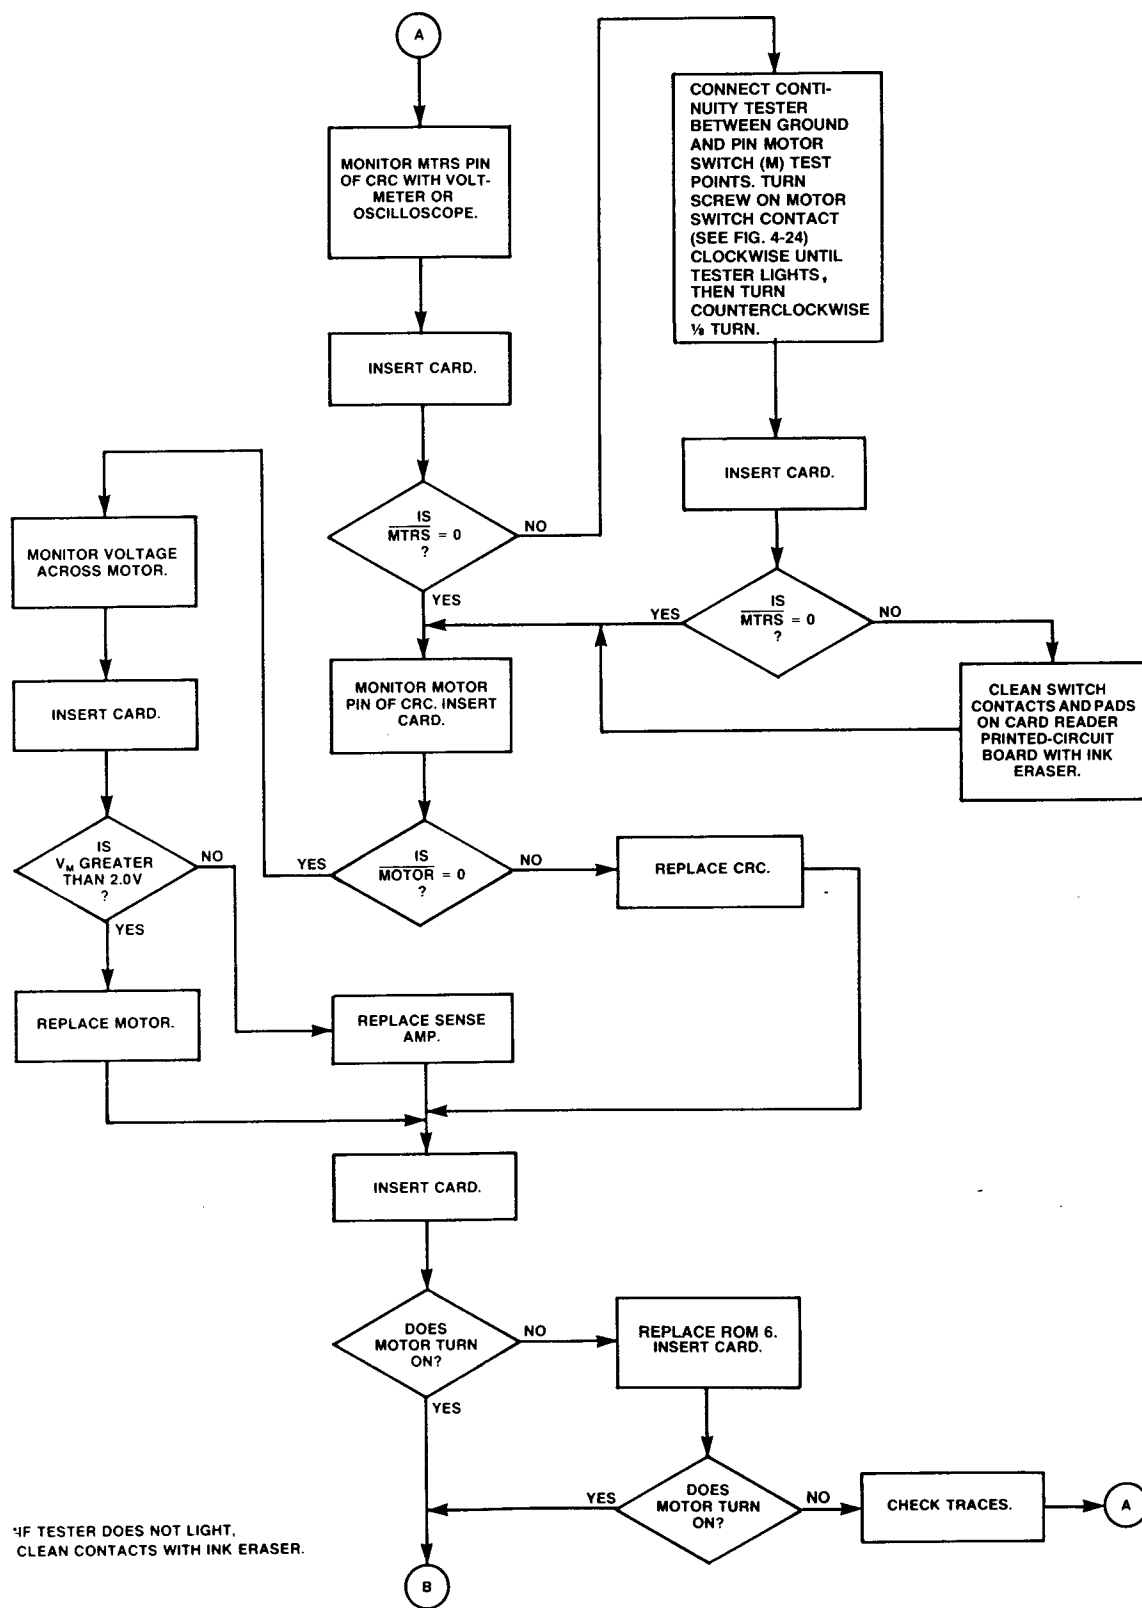

Figure 4-29. Card Reader Troubleshooting Flowchart
4-36. To repair a malfunctioning card reader, follow the troubleshooting flowchart given in figure 4-29. Refer to the card reader exploded view in figure 6-3 for aid in disassembly.
4-40. When the card reader motor speed cannot be adjusted to within the proper limits, as described in the procedures of figure 4-29, the eccentric cam must be replaced and/or adjusted as follows:
- d. Perform the fine adjustment of motor speed using the procedures of figure 4-29.